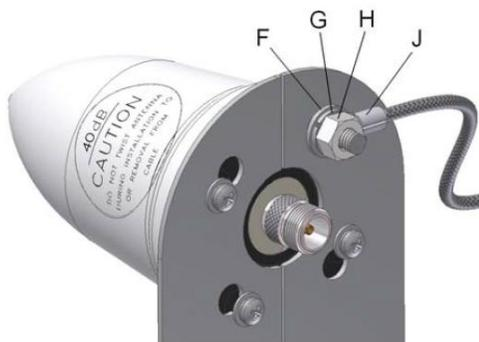

Figure 4. PCTEL GPS Model GPSSL1-TMG-SPI-40NCB
2. The PCTEL GPS antenna provides integrated, onboard, lightning protection that minimizes the need for a downstream, inline surge suppressor. The GPS antenna must be properly grounded. See figure 4. If using an external surge suppressor, it must be a “DC pass-through” type.